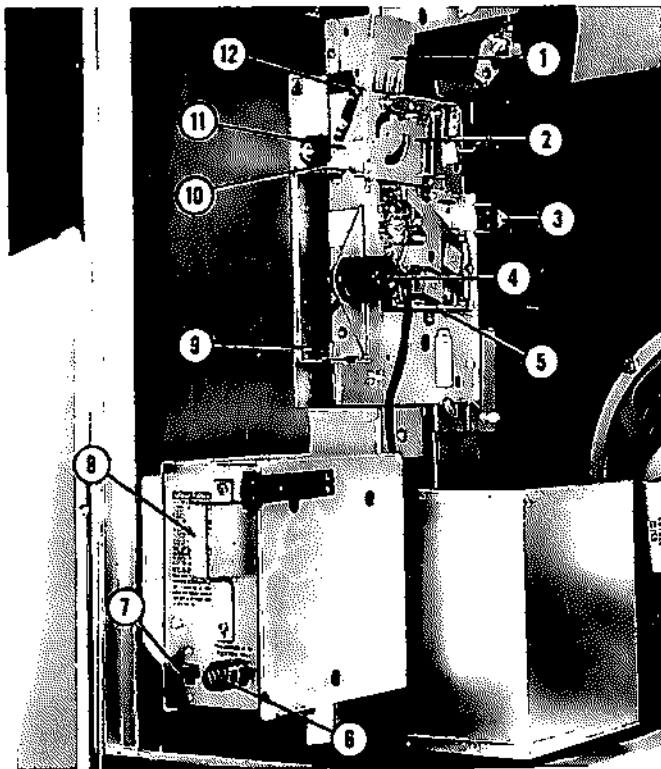
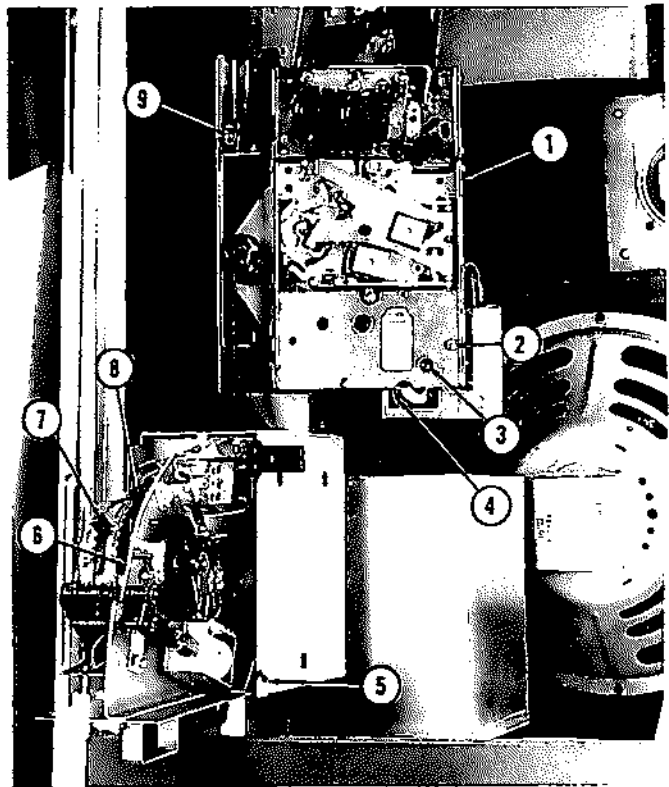
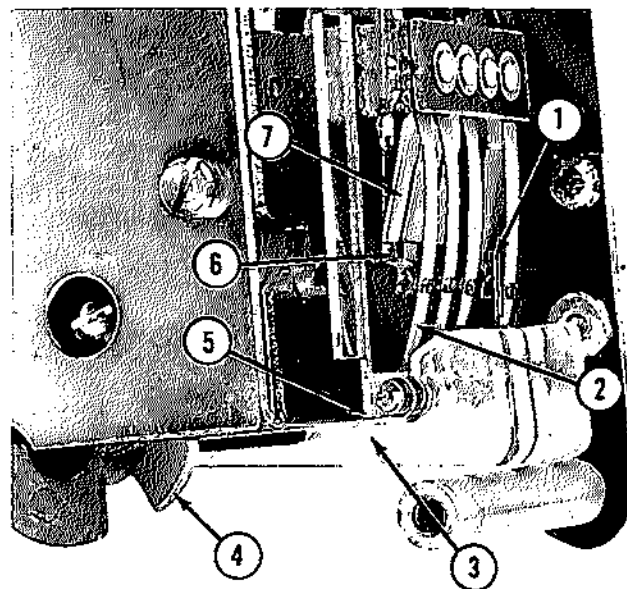
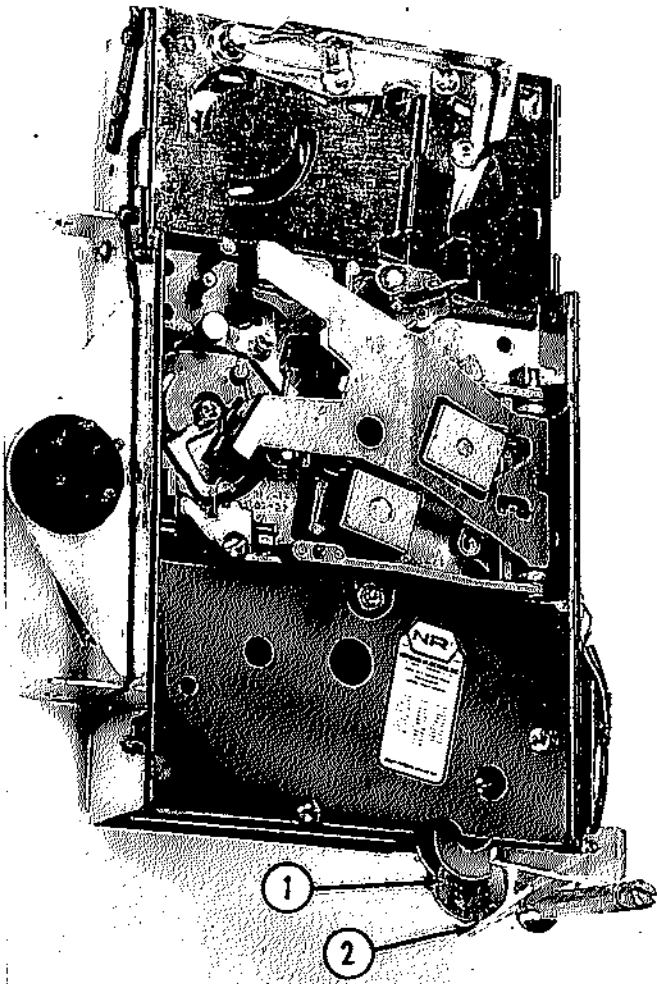

FIG. 1. COIN EQUIPMENT
FIG. 2. COIN EQUIPMENT
FIG. 3. COIN SWITCH ADJUSTMENT
FIG. 4. COIN SWITCH ADJUSTMENT
The coin equipment used on all Wurlitzer phonographs of the 2600 series consists of the National Coin Separator (Fig. 1, Item 2), the National Nickel, Dime, Quarter and Half Dollar Slug Rejector (Fig. 1, Item 11) and the Wurlitzer Coin Register Mechanism (Playrak) (Fig. 1, Item 8). These units are mounted on the inside of the right hand panel.
The front plate of the Playrak (Fig. 2, Item 6) is cut back to provide clearance for raising the unit and disengaging its hinge pins, one of which is shown at Item 5.
The complete Slug Rejector Assembly is mounted on two Hinge Pins (Fig. 1, Items 9 and 10) and may be pivoted, as shown in Figure 2, by raising the Lower Coin Chute (Fig. 1, Item 1) and releasing the Spring Latch (Item 3), for ease in checking the coin tracks and coin switches without the cash door keys but with the phonograph in operating condition.
The Slug Rejector Assembly may be removed from the phonograph when in its unlatched, open position, as shown in Figure 2, by disconnecting the plug (Fig. 1, Item 4) and disengaging the two Hinge Pins (Items 9 and 10). The Coin Separator (Item 2) may be removed from the Mounting Channel (Fig. 2, Item 1) by releasing the Latch Spring (Fig. 1, Item 12). After the Coin Separator has been removed the 5-10-25¢ Slug Rejector (Item 5) may be lifted out of the mounting.
b. The Slug Rejector Assembly is adjustable by loosening the three Top Mounting Screws, one of which is shown in Figure 2, Item 9. The elongated mounting holes provide leveling adjustment front to back. Tighten the mounting screws and check for proper coin acceptance after any adjustment.
Phonographs as shipped from the factory are normally set to operate one play for two nickels or one dime, three plays for one quarter and seven plays for a half dollar. However, they may be changed to operate on five cent play if desired, by removing the two Screws (Fig. 2, Items 2 and 3) and setting the Nickel Flipper (Item 4) in the position which will cause each nickel to actuate the 5¢ coin switch. Replace the Screws (Items 2 and 3) in their reverse positions, thus holding the Nickel Flipper in the 5¢ play position. Replace the Slug Rejector and reset the Stop Levers (Fig. 2, Items 7 and 8) to the required number of credits for dimes and quarters. The Slide Switch (Fig. 1, Item 7) must be set to the 5-10-25 position. The Coin Stop, Part Number 120785 packed in the Coin Bag, should be installed on the back side of the coin entrance using the 6-32 x 1/4" R.H. type Z Screw, Part Number 73568-22, furnished. The mounting hole for the Coin Stop will be found in the Selector Button Extrusion directly below the right hand edge of the coin denomination window casting. The installation of the Coin Stop prevents the half dollar coin from entering the coin chute.
When replacing the Slug Rejector, handle with care so as to prevent damage to the nickel flipper (Fig. 2, Item 4).
The Coin Switches should be adjusted, by forming the Stiffener Blades (Fig. 3, Item 7) to provide 1/32" opening (Item 1) of the Contact Points, with the Plastic Coin Paddles (Item 3) held against the lower edge of the Mounting Bracket (Fig. 3, Item 5) under tension of the long movable blades (Item 2) of the Coin Switch Assembly.
The Stationary Blades (Item 6) should bear against the Stiffener Blades (Item 7) with sufficient tension to prevent vibration. The tension of the movable blades should be adjusted so that a thin coin, when stopped on its Coin Paddle, as shown in Figure 4, will actuate the movable blades, making contact with the stationary blade (Fig. 3, Item 6) and clear the paddle. A pulse of more than 3 seconds duration should normally blow the 8/10 ampere fuse (Fig. 1, Item 6) in the Coin Magnet circuit.